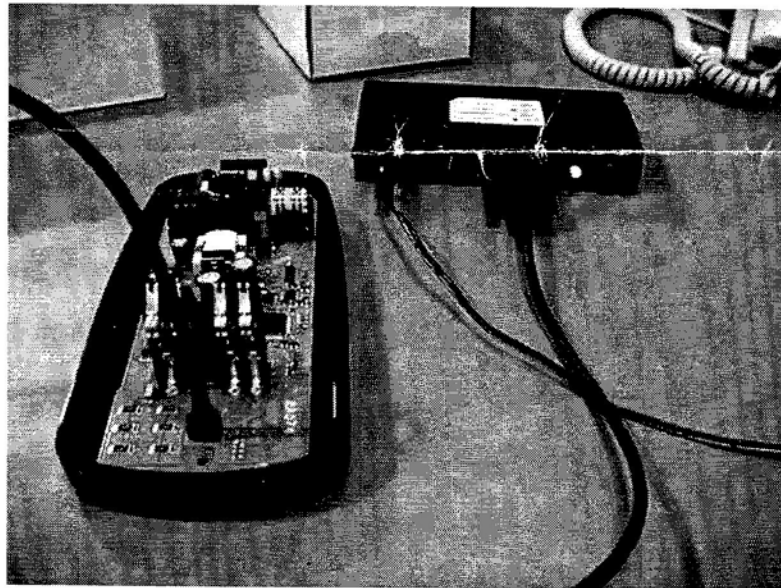

Figure 14: Successful iFP Programming, Solid GREEN LED
3. Press the "Start" Button on the iFP to initiate programming, the LED on the iFP will Flash YELLOW. Upon a successful Program, the LED will indicate Solid GREEN (Figure 14).